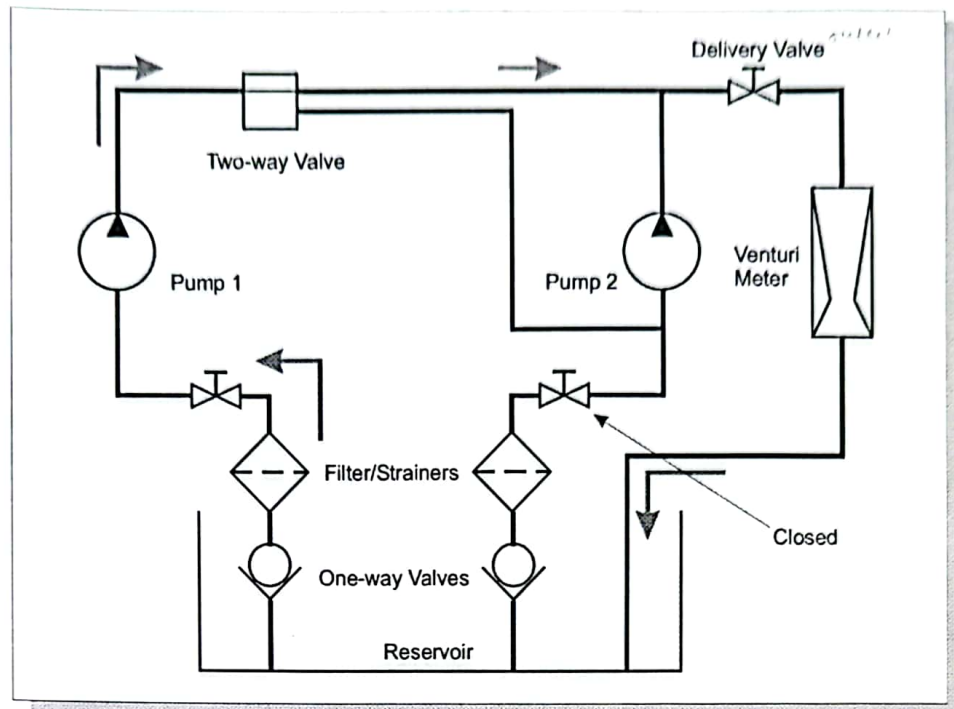

Figure 24 Flow Diagram for A Single Pump Test
3. Close Pump 2 inlet valve and set the two-way valve to direct flow straight to the delivery pipe (see Figure 24). Fully open Pump 1 inlet and the delivery valve.